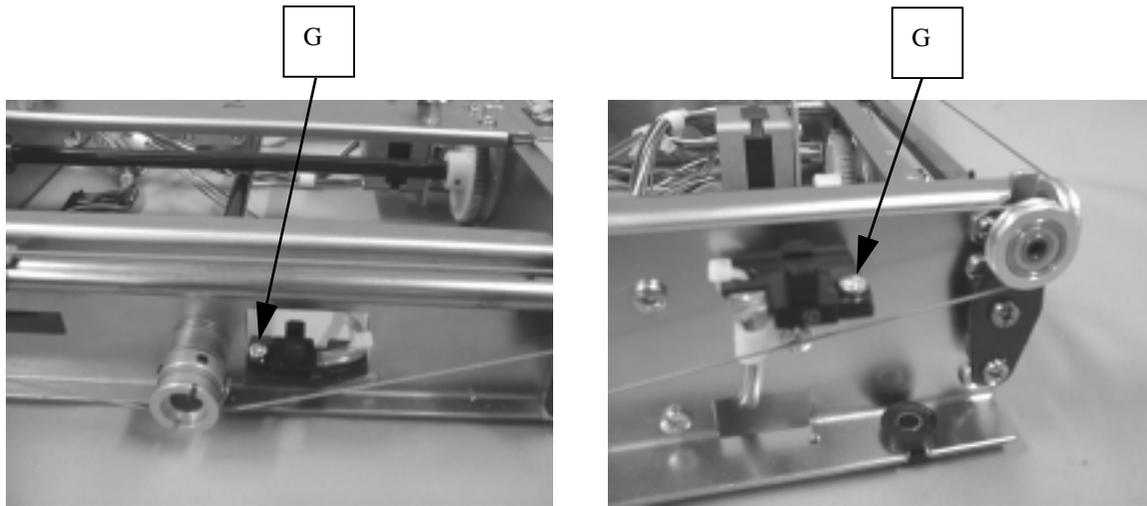

FIGURE 15-7
8. Remove stepping motor connector and 1 bind screw 3x6(G). Then replace Y(X) motor cord unit (Y(X) sensor). Fig.15-7.